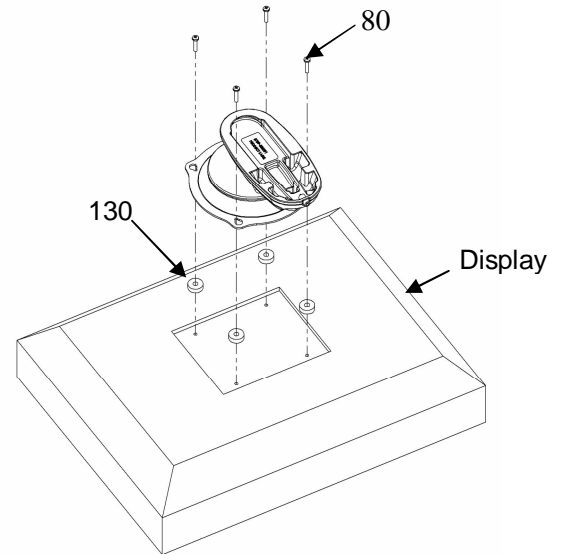

Figure 5. Recess Mount Centris Bracket to Display
2. Select four screws M4 x 20mm screws (80) and four spacers (130) from parts bag.
3. Place four spacers (130) over mounting holes on back of display (see Figure 5).
5. Install four screws M4 x 20mm screws (80) to attach Centris bracket to display.